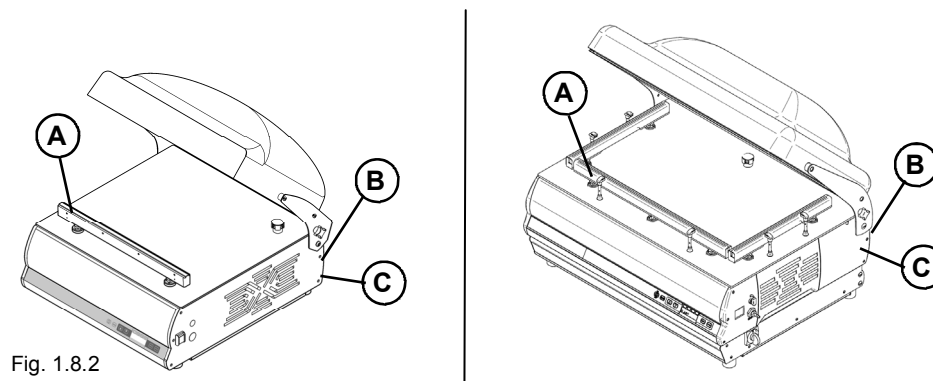

Fig. 1.8.2
1.8.1 - Warning and danger plates (Fig. 1.8.2)